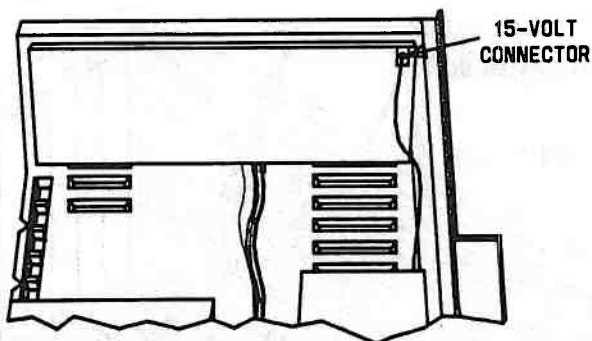

Figure 3-46. The 15-Volt Connector on the VDC
10. If a color monitor is to be connected to the DEB, go to Step 13. If a Monochrome Monitor is to be connected to the DEB, locate the 15-volt connector (Figure 3-46) at the top right of the VDC and temporarily disconnect it.